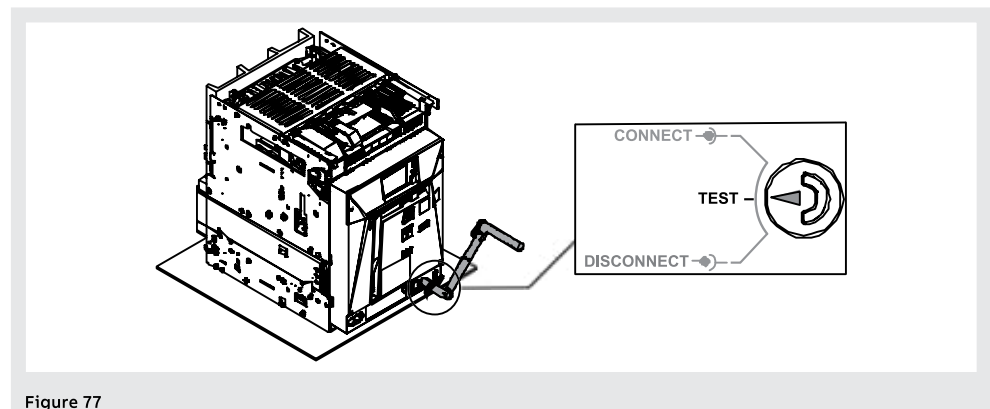

Figure 77
9. Turn the crank clockwise until the pushbutton comes out and the indicator shows that the circuit-breaker is in **TEST** position. See Figure 77.